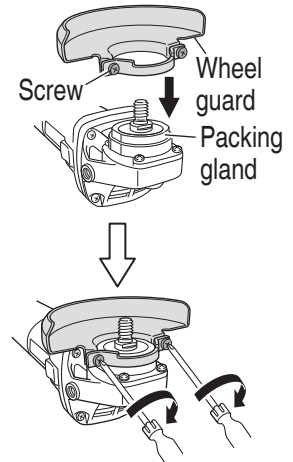

Fig. 1
4. Mounting the wheel guard (**Fig. 1**)